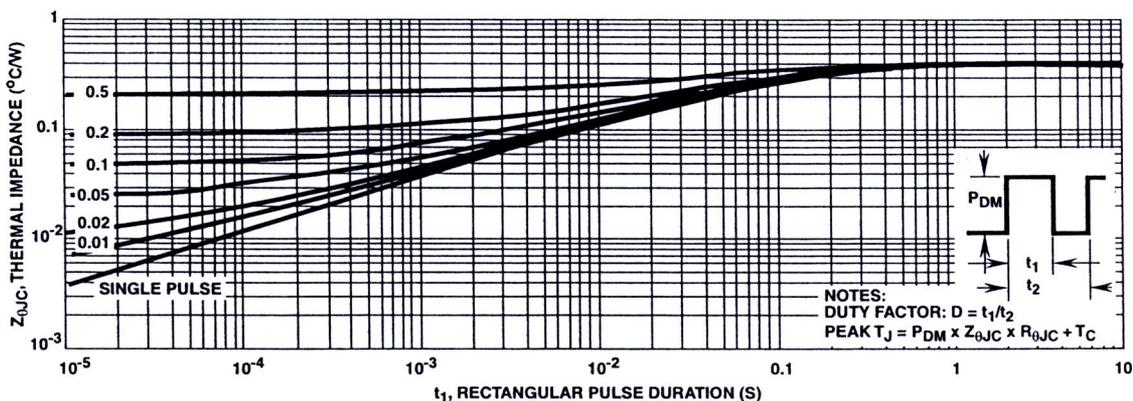

FIGURE 3. MAXIMUM TRANSIENT THERMAL IMPEDANCE
3. Repetitive rating: pulse width limited by Max junction temperature. See Transient Thermal Impedance curve (Figure 3).